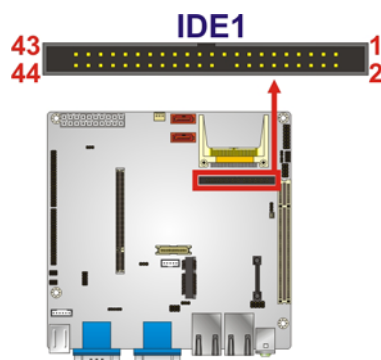

Figure 3-12: IDE Connector Location
- CN Location:** See **Figure 3-12**